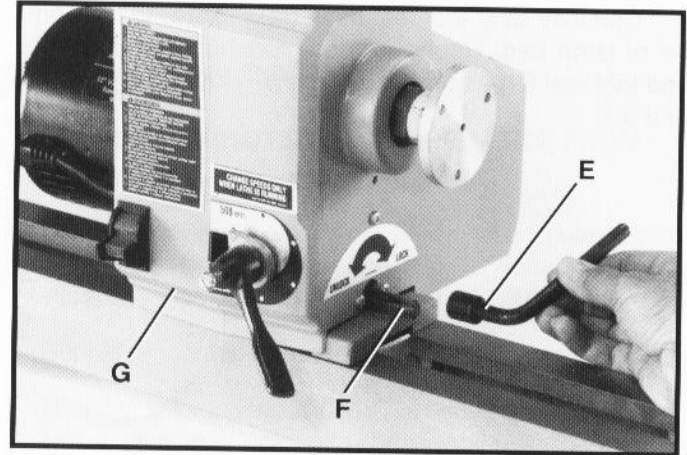
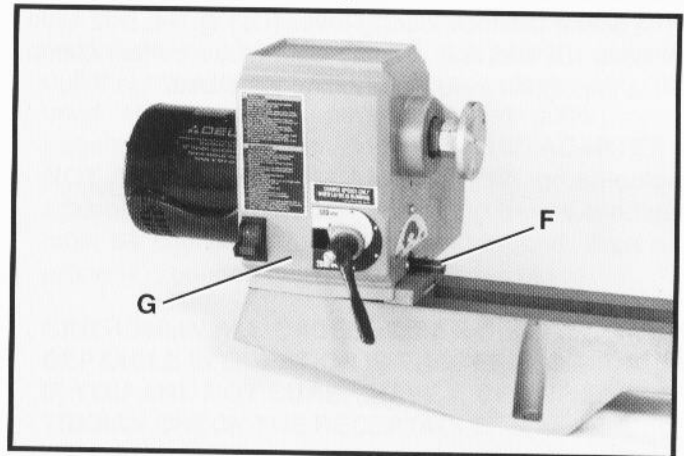

Fig. 9
Fig. 10
3. Using socket head wrench (E) Fig. 9 (supplied), turn headstock locking bar (F) to the unlocked position and carefully slide headstock (G) to the left end of lathe bed as shown in Fig. 10. Tighten headstock locking bar (F).